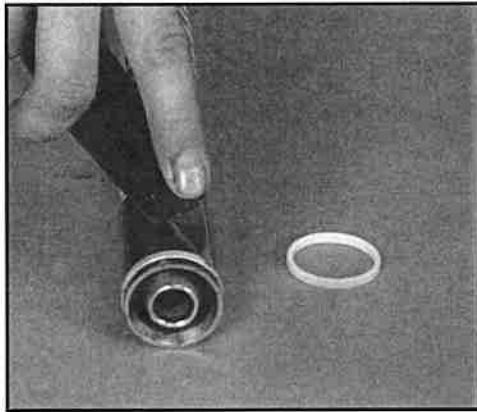

FIG. 45: REMOVE CONTROL SEAL
1. Cut the control seal off (see Fig. 45).